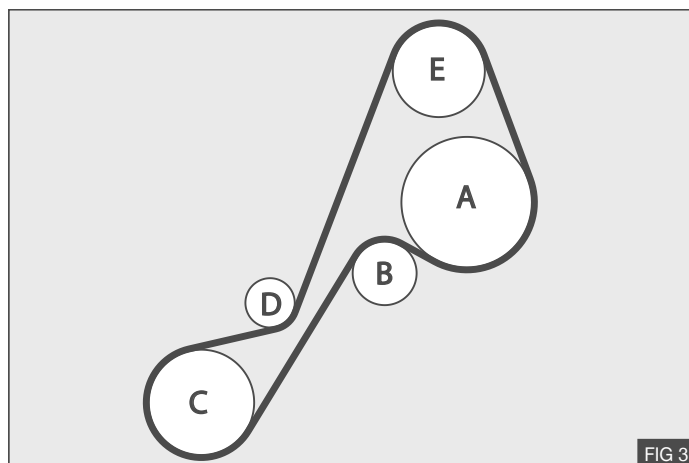

FIG 3
1. Feed the supplied belt over the viscous fan and install the drive belt as shown opposite - Fig.3